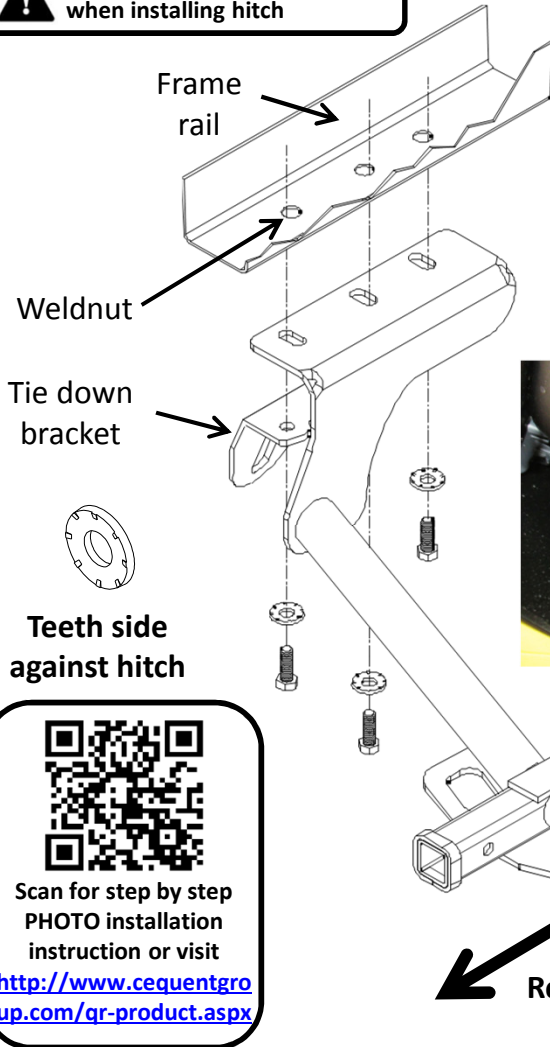

Figure 3
2. Tie down bracket removal - use 17 mm socket to remove (2) bolts from bracket, see Figure 3.
3. Lower exhaust - remove (1) rubber isolator from exhaust rod on passenger side.